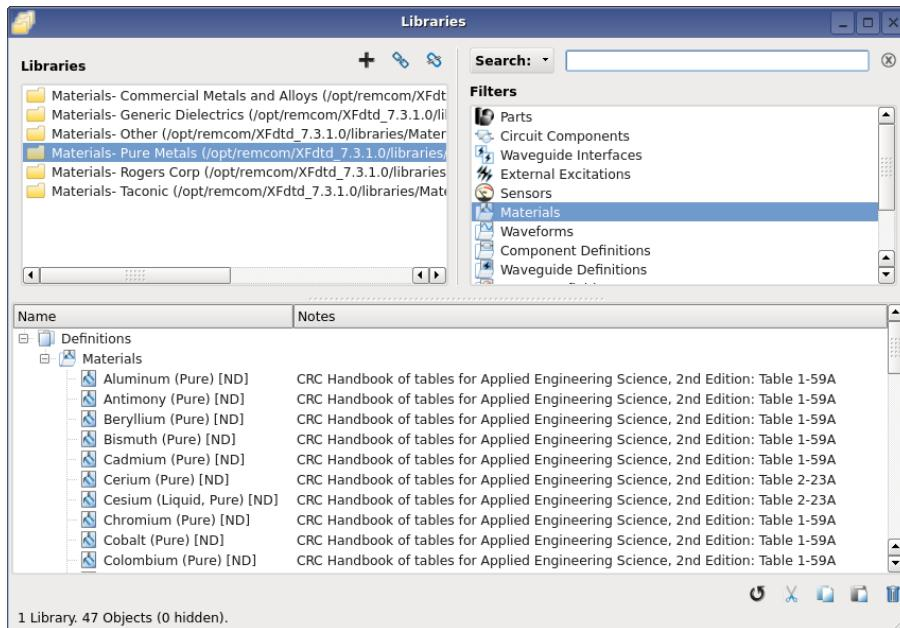

Figure 5.6: Libraries Workspace Window
- The default view of the LIBRARIES window is shown in Figure 5.6. XFdtd has several built in materials LIBRARIES which appear in the upper left portion of the LIBRARIES window. The upper right portion of the LIBRARIES window contains filters which restrict the results displayed in the lower portion of the window to only display those types which match the filters. In addition to the built in libraries you can create your own library which you can populate with any object or definition type that appears in the filter pane. This includes CAD parts, circuit components, materials etc.